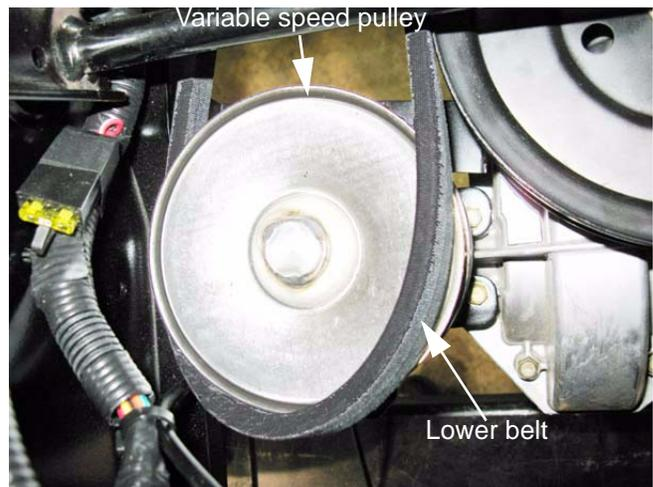

Figure 6.64
- 5b. Roll the belt off of the lower sheave of the variable speed pulley. See Figure 6.64.